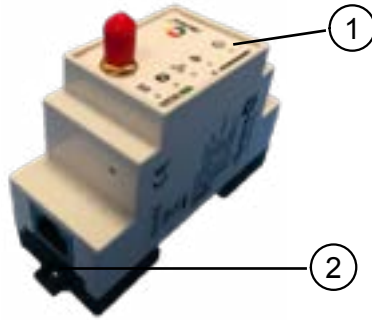

Fig. 1: Scope of delivery of the Gateway
- ▶ Connect an Ethernet cable to the connector (pos. 2 in Fig. 1) and connect the other end of the cable to an internet router/modem.
The Gateway has 5 LEDs on the front, which indicate the status of the device (pos 1 in Fig. 1).